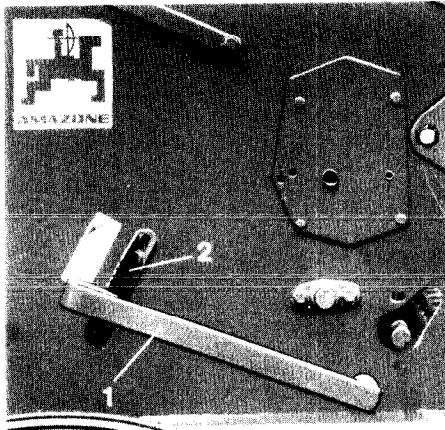

Fig. 1
- Bring bottom flap stetting lever (Fig. 1/1) at the resting plate (Fig. 1/2) into position "1".